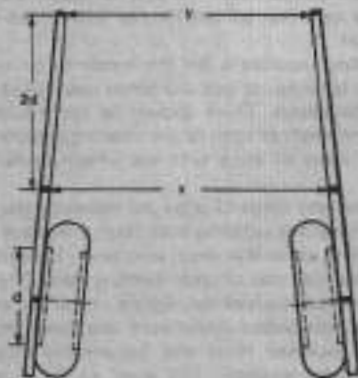

Fig. 10.6. Adjusting toe-in
4 To do this remove the drop arm from the drop arm shaft. It is held by a self locking nut on the end of the shaft, and must then be withdrawn using a puller. With this out of the way the serrated plate can be taken off and turned on the eccentric bush to re-engage on other splines further round. See item 30 in Fig. 10.6. (photo).